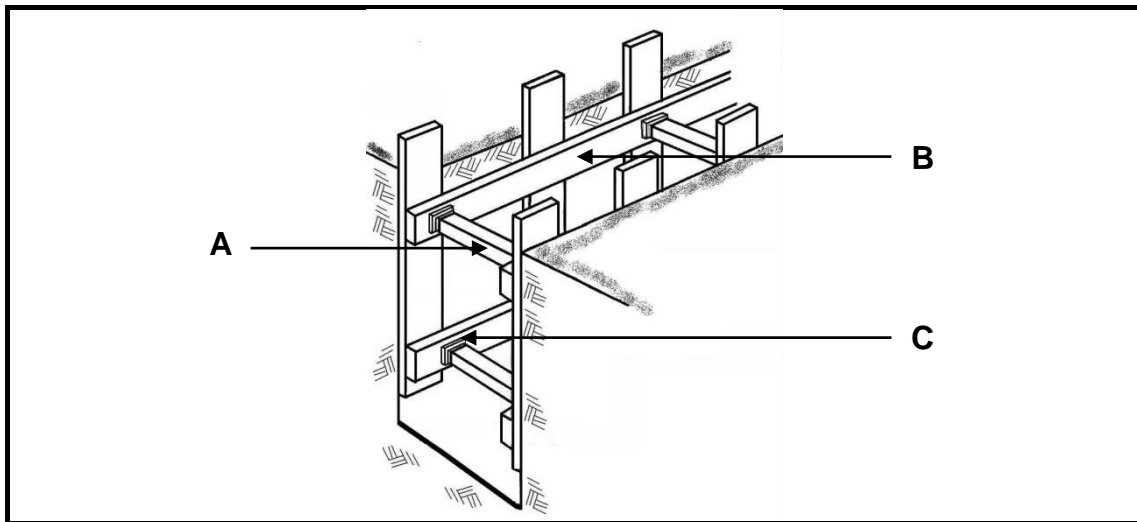

FIGURE 4.11
4.11 Answer the following questions with regard to the shuttering in FIGURE 4.11.
- 4.11.1 Identify the type of soil in FIGURE 4.11. (1)